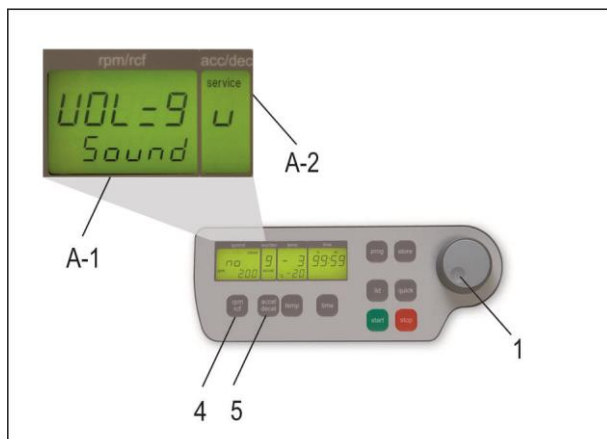

Figure 8
Proceed as illustrated under point 1.8.1 to enter this program mode, press the key "accel/decel" (5). In the display "accel/decel" (A-2) flashes the word "service". Select the letter "U" with the adjustable knob (1). As a result appearing in the display "rpm/rcf" (A-1) are the words "Vol=0-9/Sound". By pressing the key "rpm/rcf" (4), the desired volume can be adjusted between 0 (low) and 9 (loud) with the adjustable knob (1), (see Figure 8).